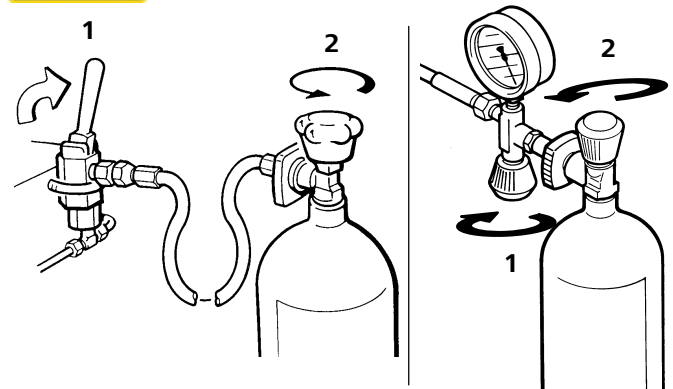

Fig. 11 Filling air bottle
- Open filling valve (1, Fig. 11).
- Open bottle valve (2) - bottle will be filled. Drain condensate regularly during filling. On units with automatic condensate drain check that condensate is drained regularly.